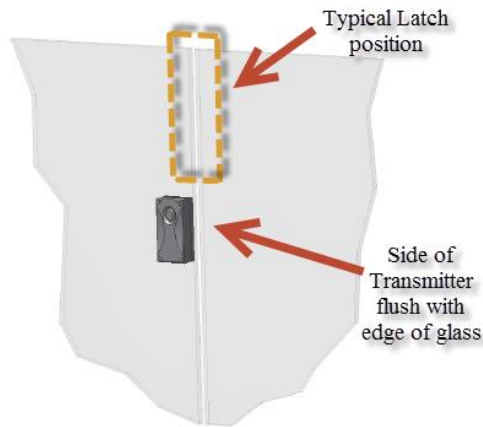

Figure 5
8. Remove the red cover film from the adhesive strip and press the transmitter assembly onto the glass panel so that the side of the transmitter assembly is flush with the edge of the glass (figure 5)